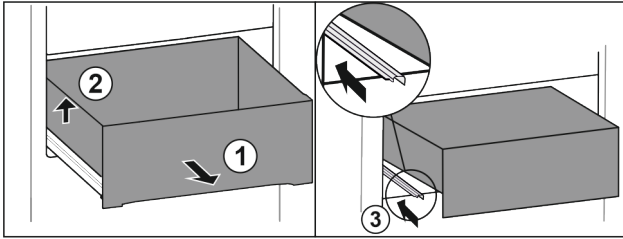

Fig. 87
- ▶ Pull out drawer as far as it will go. Fig. 87 (1)
- ▶ Lift drawer on the left. Fig. 87 (2)
- ▶ Slide in left rail. Fig. 87 (3)